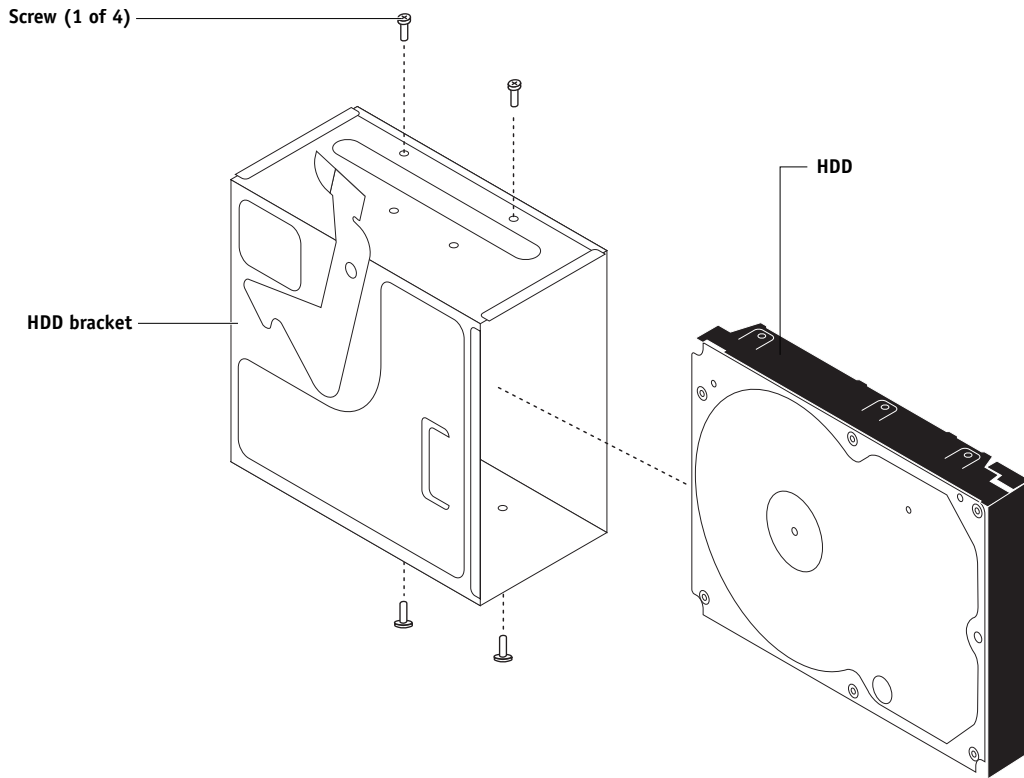

FIGURE 4-27 Removing the HDD from the HDD bracket
6. Remove the four screws that attach the HDD to the HDD bracket. (See Figure 4-27.)